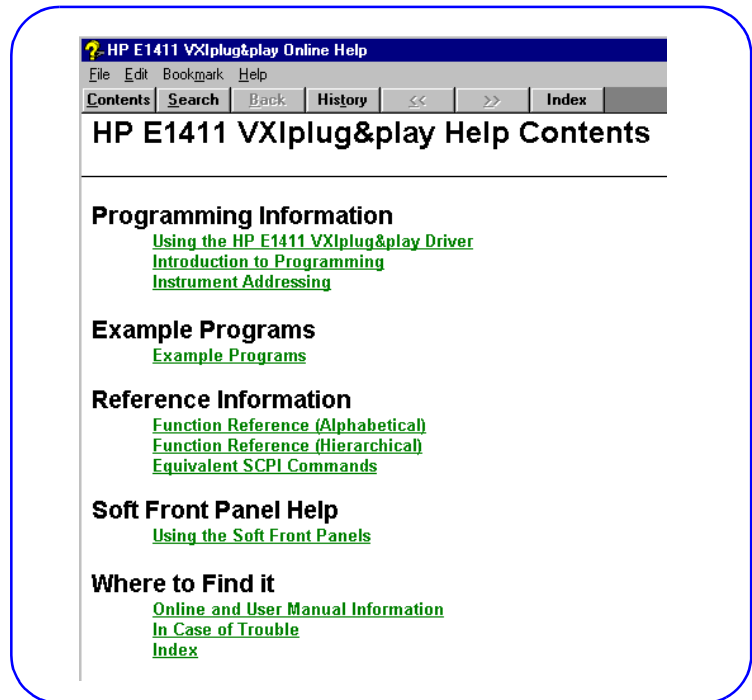

Figure 43. Typical *VXIplug&play* Help File Main Menu
- 3 For the first VXI instrument to be programmed, open the applicable instrument *VXIplug&play* Help File (*Start|Programs|Vxipnp|instrument help icon*). Figure 43 shows a typical *VXIplug&play* Help File main menu for the HP E1411 DVM that is displayed when you click *Start|Programs|Vxipnp|HP E1411 Help (32-bit)*.